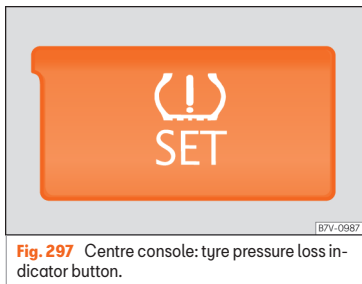

**Fig. 297** Centre console: tyre pressure loss indicator button.
- Press and hold down the (⚠) SET » Fig. 297 button until an audible signal is heard.
Incorrect use of the tyre pressure monitoring indicator set button could result in the indicator giving incorrect warnings or prevent it from indicating the danger caused by very low tyre pressure »» Fig. 297.